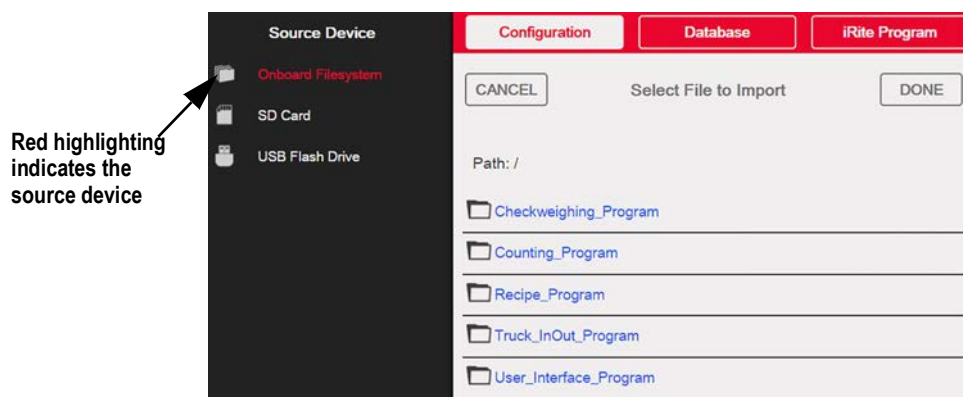

Figure 13-1. Import Configuration
Note *The Import Configuration screen looks the same whether importing from an onboard file system, a micro SD card or a flash drive. The only difference is the source device is highlighted in red on the left side of the screen. For an example, see Figure 13-1, a file is being imported from an onboard file system.*
2. Press **Import from File**. The Import Screen displays, see Figure 13-1 on page 113. Load both the .rev and .cod files to use the built-in application programs.
4. Select **Import from File**. The Import Screen displays, see Figure 13-1 on page 113.
2. Press **Import from File**. The Import Screen displays, see Figure 13-1 on page 113.
3. Press **Import from File**. The Import Screen displays, see Figure 13-1 on page 113.